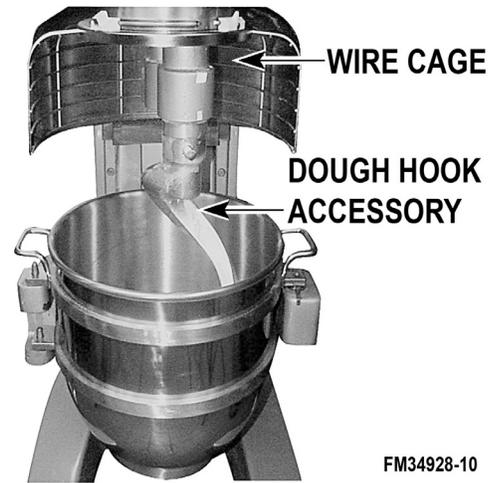

Fig. 12
5. Place the agitator inside the bowl, then attach it to the agitator shaft (Fig. 12).